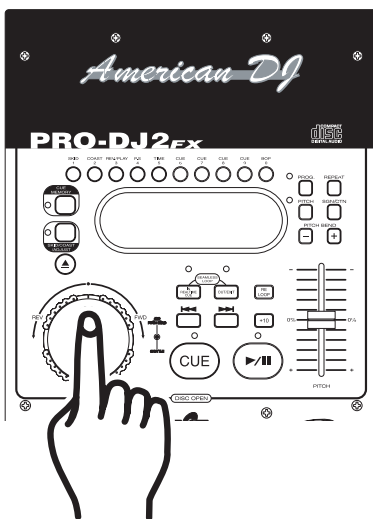

Figure 17
Adjusting the Pitch Slider's Range (21): You may change the *PITCH SLIDER'S* (21) operating range. To change the operating range be sure the pitch function is turned on, see figure 17. The pitch percentage can be changed between $\pm 8\%$, $\pm 12\%$, and $\pm 16\%$. $\pm 8\%$ will allow the least amount of pitch manipulation and $\pm 16\%$ will allow the most amount of pitch manipulation. To adjust to the different values tap the *P.S. BUTTON* (4). The LED beside the *PITCH BUTTON* (27) will indicate which pitch percentage mode the unit is operating in. Glowing green for $\pm 8\%$, glowing orange for $\pm 12\%$, or glowing red for $\pm 16\%$. Note, the pitch function must be activated to receive a LED reading.